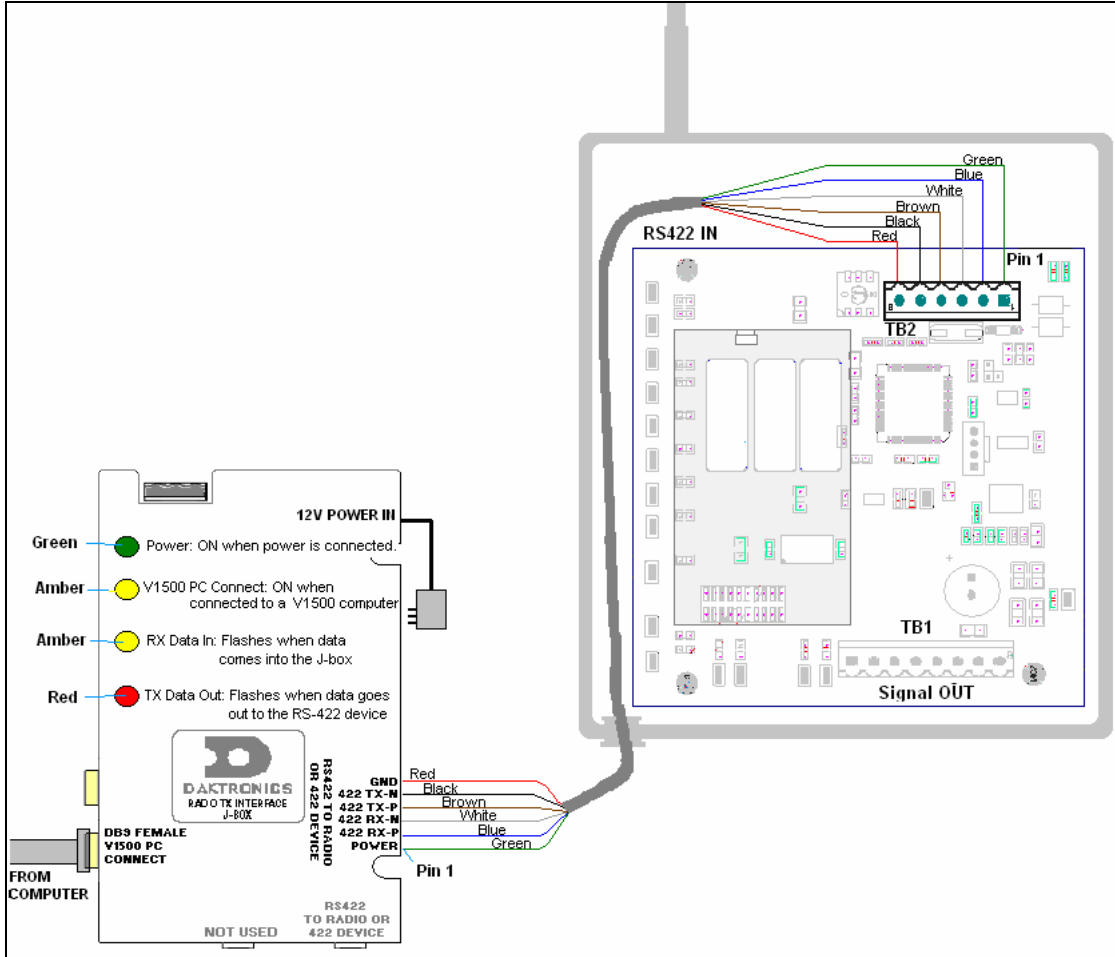

Figure 9: Direct Wiring, J-box to Outdoor Server Radio
5. Refer to **Figure 9** and the included table for connections from the J-box/signal converter to the server radio.